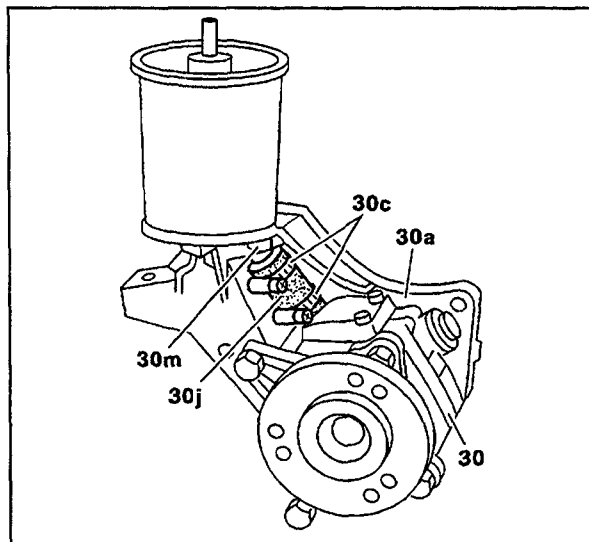

Figure 3
6. Loosen hose clamps (30c, Figure 3) on connecting hose.
7. Loosen and remove connecting pipe (30m, Figure 3) and aluminum washer.
8. Remove the connecting hose (30j, Figure 3).
9. Inspect power steering pump bracket near threaded area for connecting pipe (30m, Figure 3). If no evidence of porous casting exists, replace the connecting hose (30j, Figure 3) and hose clamps (30c, Figure 3). Do not tighten the clamps at this time.
10. Replace aluminum washer and reinstall connecting pipe (30m, Figure 3).
11. Tighten the connecting hose clamps (30c, Figure 3). **Tightening torque: 1.5 Nm.**